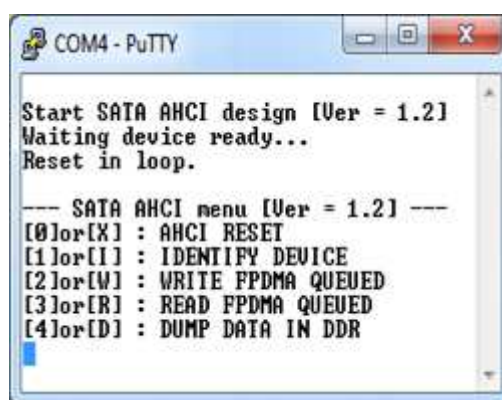

Figure 2-12 Main Menu
12) Main menu will be displayed on Serial console as shown in Figure 2-12. Then, user can execute each command operation. Please check serial cable connection if this menu is not displayed on the console.